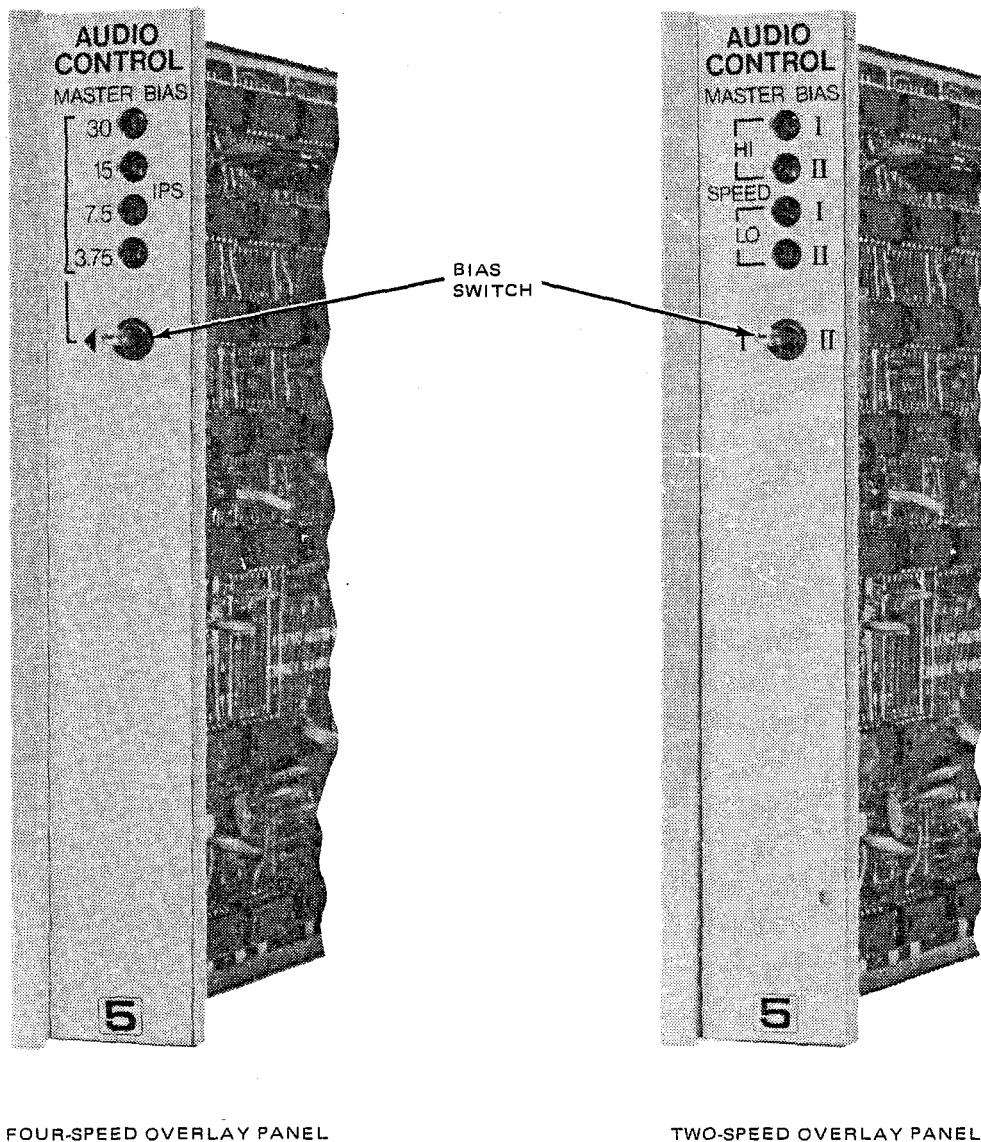

Figure 1. Overlay panels, Audio Control PWA No. 5.
The jumper plugs on the audio control PWA no. 5 permit the user to program the ATR-100 for two-speed dual master bias operation or four-speed master bias operation. When the ATR-100 is programmed for two-speed dual master bias operation, a switch on the front panel of the audio control PWA no. 5 (Figure 1) enables the operator to select one of two different master bias levels for each of the two operating speeds. When the recorder is programmed for four-speed operation, the switch is permanently placed in the left-hand position and a single master bias level is provided for each speed. This master bias level is automatically switched for the speed selected on the transport control panel.
2. If two-speed overlay panel (Figure 1) is not in the front position on the PWA, remove front-panel screw, interchange overlay panels, and reinstall screw.
2. If four-speed overlay panel (Figure 1) is not in the front position on the PWA, remove front-panel screw, interchange overlay panels, and reinstall screw.